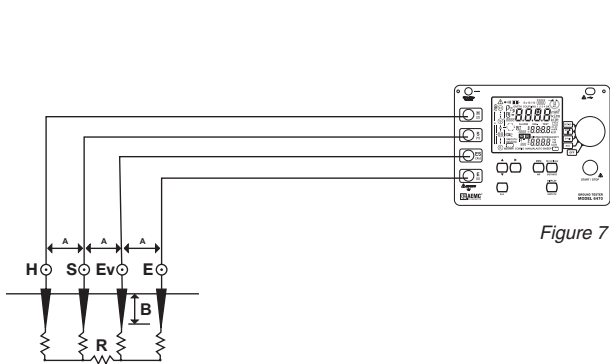

Figure 7
**R**esistivity measurements are of two types; the 2-Point and the 4-Point method. The 2-Point method is simply the resistance measured between two points. For most applications the most accurate is the 4-Point method which is used in Ground Tester Model 4620, 4630, 6470-B, 6471 or 6472. The 4-Point method (Figures 7 and 8), as the name implies, requires the insertion of four equally spaced and in-line electrodes into the test area. A known current from a constant current generator is passed between the outer electrodes. The potential drop (a function of the resistance) is then measured across the two inner electrodes. The Model 4620, 4630, 6470-B, 6471 and 6472 are calibrated to read directly in ohms. Where space or access to inserting rods is a problem, the Miller box and multiple depth testing may be used. The Schlumberger method is used mainly for geologic surveys.
- Connect all four auxiliary rods (Figure 7)